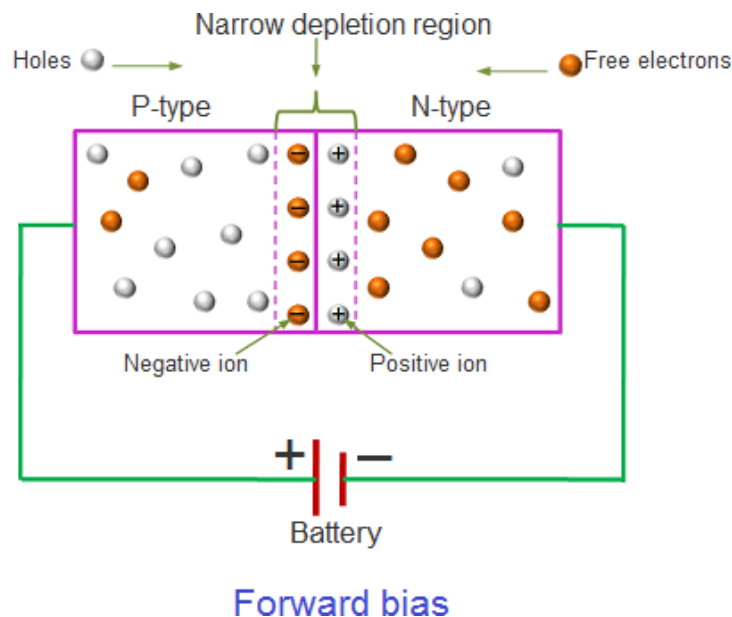

Figure 4. Forward Biasing of PN Junction
- It may be noted that forward bias reduces the thickness of the depletion layer as shown in Figure 4.